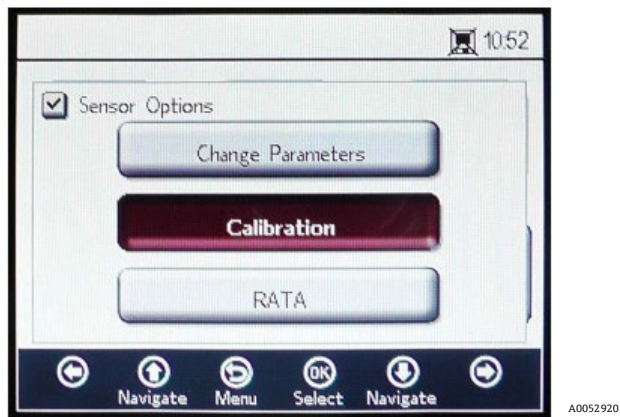

Figure 54. Calibration button in the sensor options window
1. Select **Calibration** from the SENSOR OPTIONS window. Refer to Figure 54.